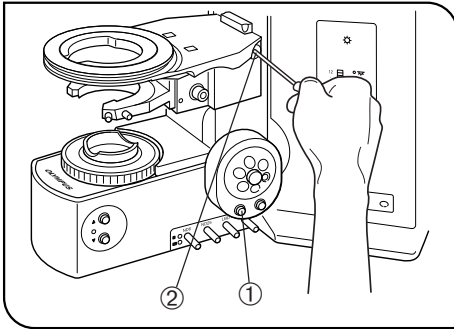

Fig. 22
**4 Adjusting the Stage Height** (Figs. 22 & 23)